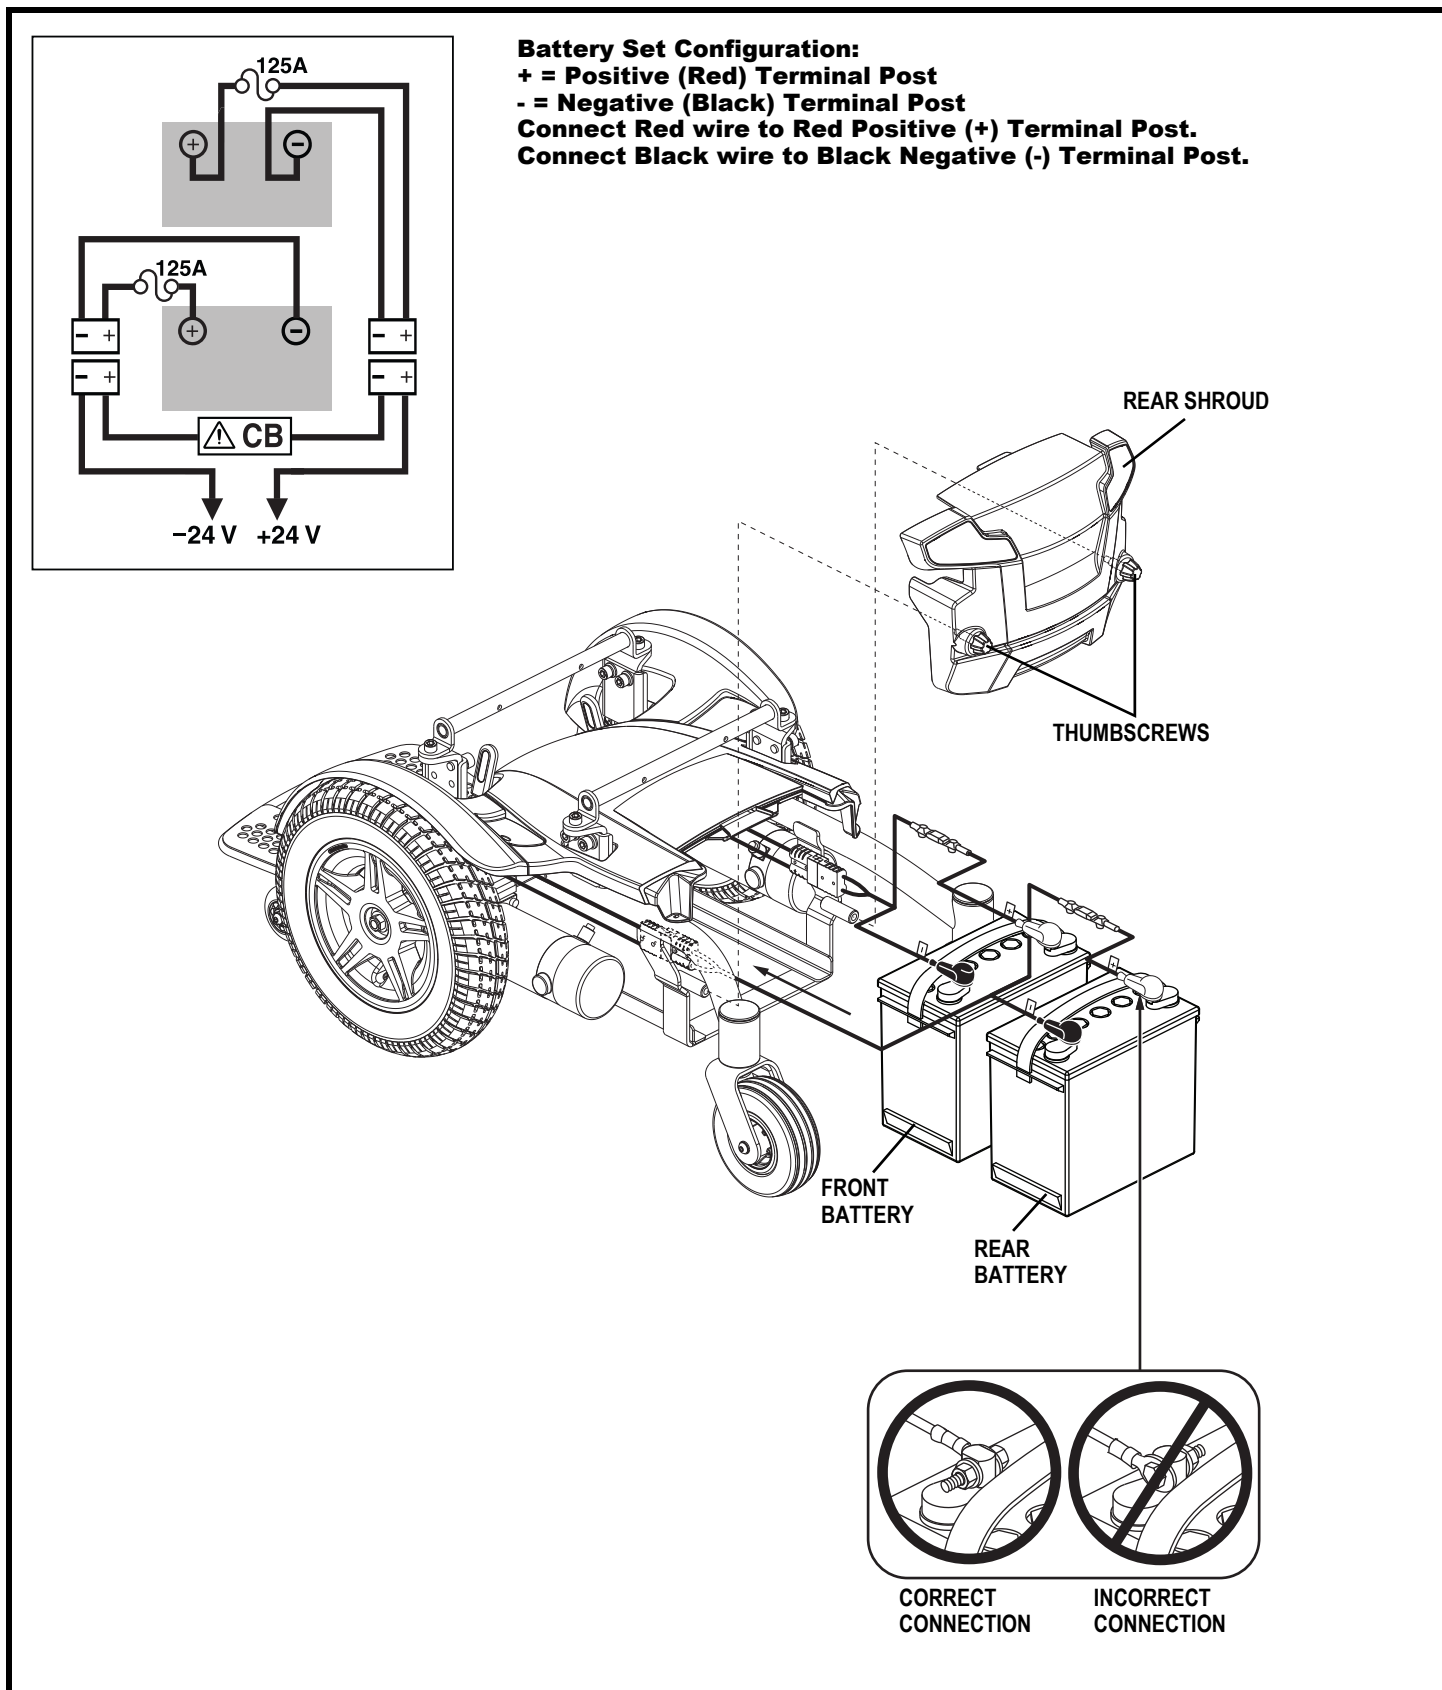

Figure 18. Battery Installation
5. Loosen the thumbscrews from the rear of the power chair. **See figure 18.**
7. Disconnect the battery cables from the terminals of each battery. **See figure 18.**
9. Install new batteries into the power base. Make sure the terminals of each battery are facing the rear of the power chair. **See figure 18.**
10. Connect the front battery cable to the front battery terminals according to the battery wiring diagram. Make sure that the battery terminal hardware is facing the correct direction. **See figure 18.**
11. Connect the rear battery cable to the rear battery terminals according to the battery wiring diagram. Make sure that the battery terminal hardware is facing the correct direction. **See figure 18.**